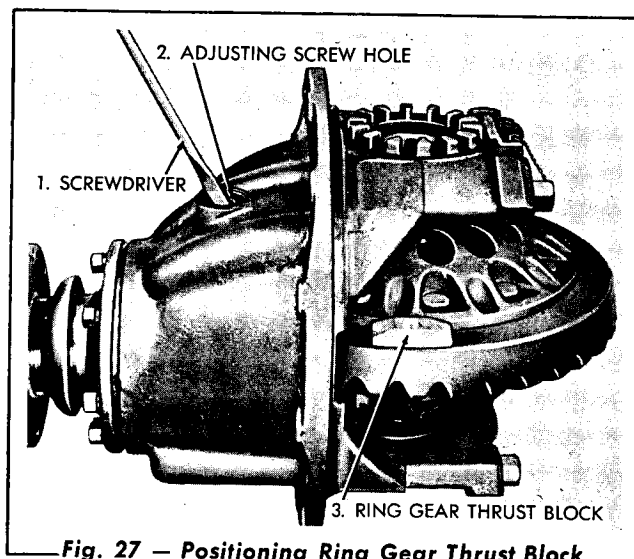

Fig. 27 — Positioning Ring Gear Thrust Block
2. Remove the adjusting screw and the locknut from the carrier housing (Fig. 27).